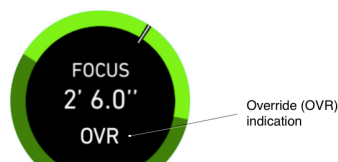

Fig. 8: Motor screen
- OVR appears on display (Fig. 8)
- Lens data appears on display (Fig. 8)